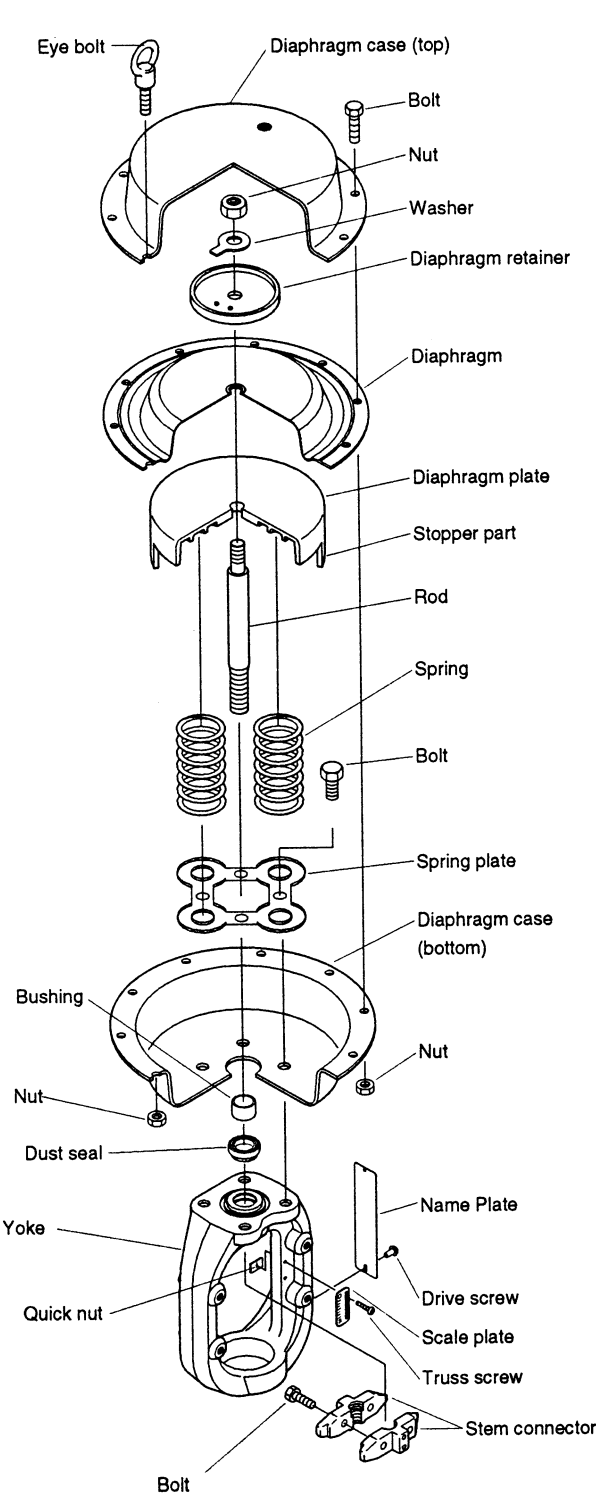
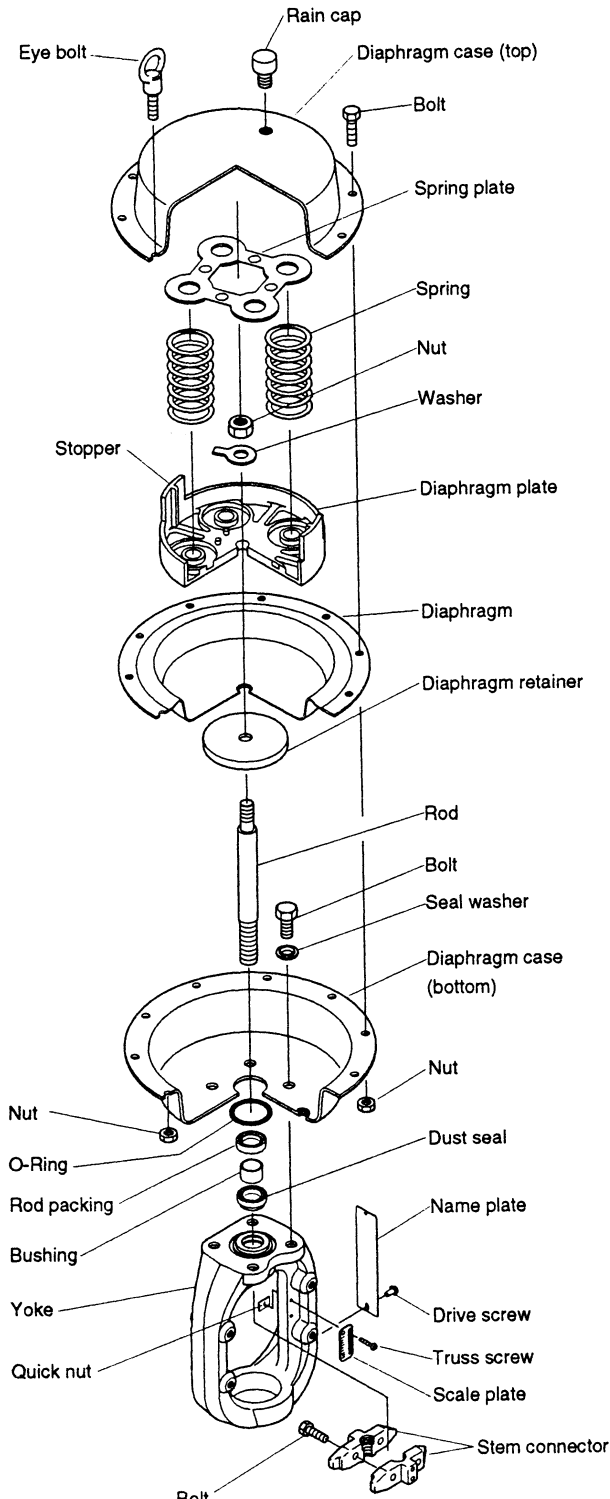

Fig. 4-6 Direct Action model PSAID
Fig. 4-7 Reverse Action model PSAIR
A. Direct action model (see Figure 4-6)
- (1) Disconnect the air piping and detach the accessories from the actuator.
- (2) Remove the stem connector.
- (3) Remove the clamping bolts (except the pair of eyebolts) from the diaphragm case.
- (4) Alternately and evenly loosen the pair of eyebolts. The initial setting of the springs is achieved using these eyebolts.
- (5) Removing the diaphragm case. Pull the actuator rod upward and out together with the diaphragm.
- (6) Take out the springs.
B. Reverse action model (see Figure 4-7)
- (1) Disconnect the air piping and detach the accessories from the actuator
- (4) Alternately and evenly loosen the pair of eyebolts. The initial setting of the springs is achieved using the eyebolts.
- (5) Remove the diaphragm case. Take on the springs.
- (6) Pull the actuator rod upward and out together with the diaphragm.
Install packing for the rod and dustseal in the correct direction. Refer to Fig.4-6.
Install packing for the rod and dustseal in the correct direction. Refer to Fig.4-7.